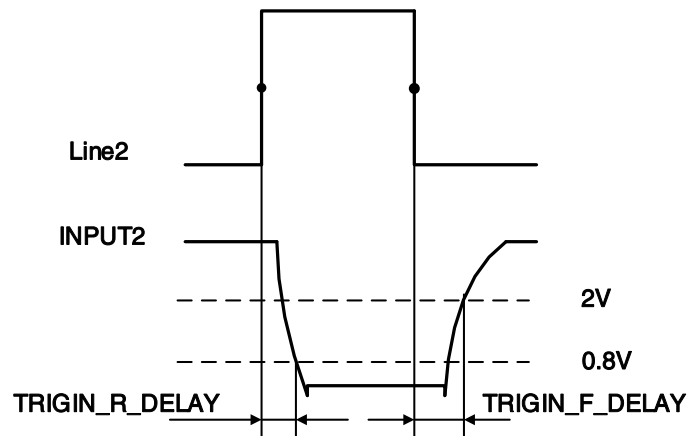

Figure 7-9 Parameter of Line2 input circuit
- Input rising time delay:  $<2\mu\text{s}$  ( $0^{\circ}\text{C}\sim 45^{\circ}\text{C}$ ), parameter description as shown in Figure 7-9
- Input falling time delay:  $<2\mu\text{s}$  ( $0^{\circ}\text{C}\sim 45^{\circ}\text{C}$ ), parameter description as shown in Figure 7-9